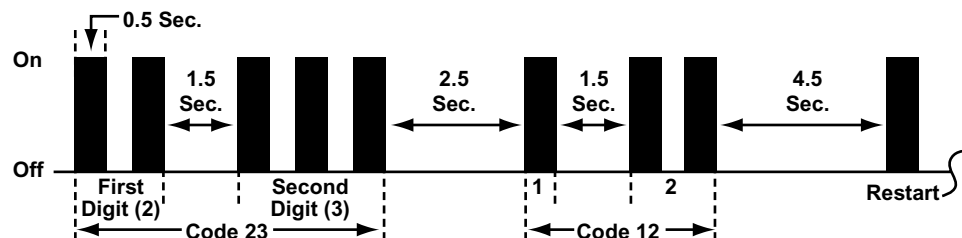

Figure 7-18 Transmission Code Type 09
- Type 09 transmission codes, see Figure 7-18 and Table 7-4 on page 60